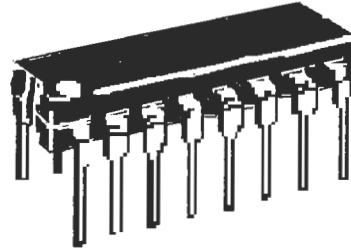

Figure L1-02
Do not remove the small integrated-circuit (IC) chips shown in Figure L1-02 from their antistatic packaging. They are packed in a special antistatic tube or special sponge material.